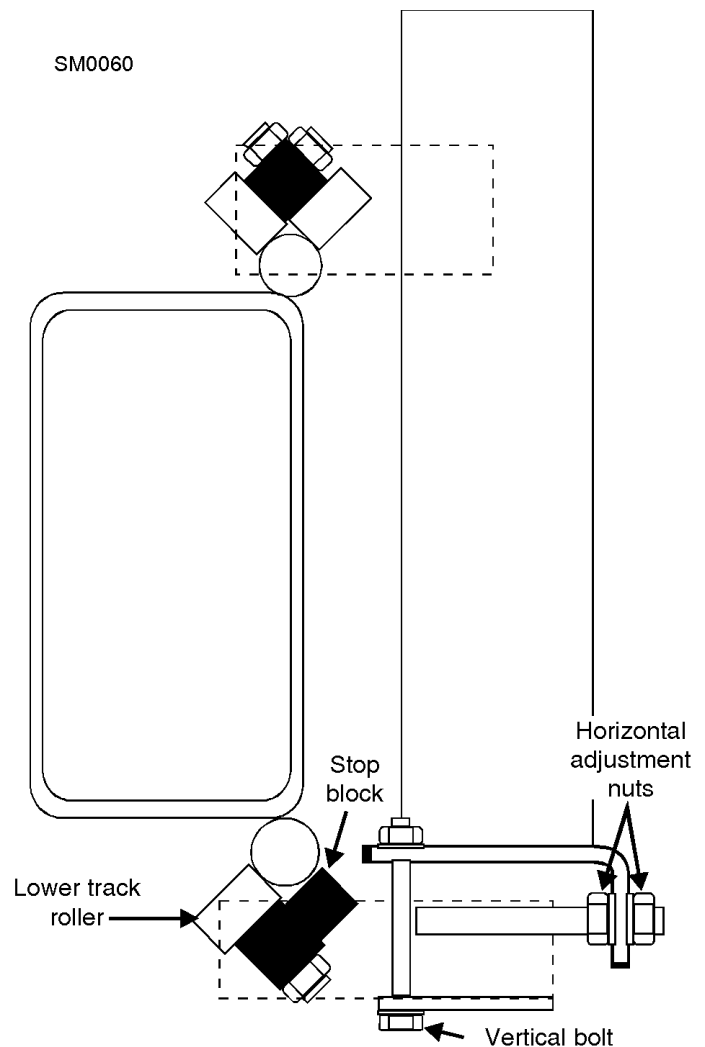

FIG. 5-20
2. Adjust the lower track roller horizontal bolts until the blade measures 14 13/16" (376.5 mm) from the bed rail near the outer blade guide. **See Figure 5-20.**